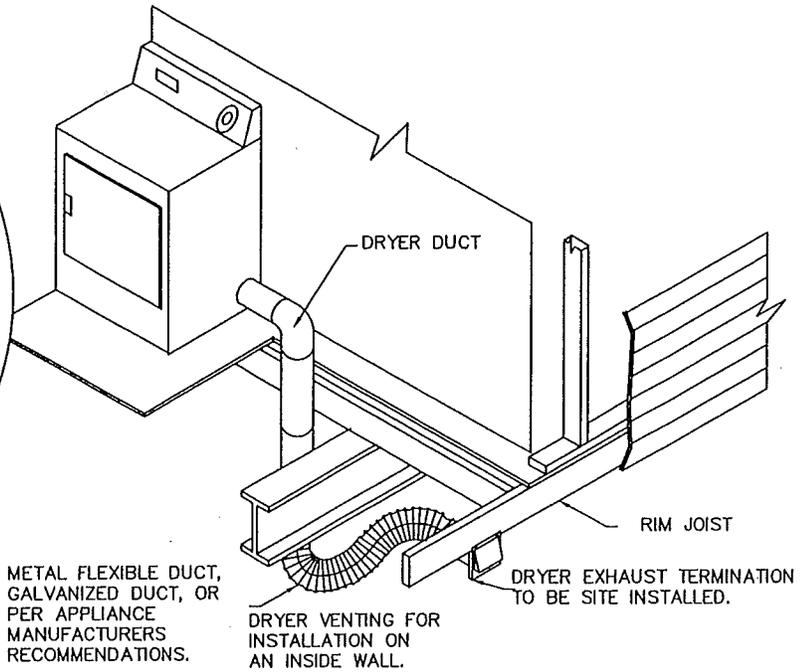

FIGURE 95
1. An access panel is located in the dryer area to provide access to the dryer end of the duct system. See Figures 95 and 96.
3. The exhaust system shall be completed on site as shown with materials provided by the owner. See Figures 95 and 96.